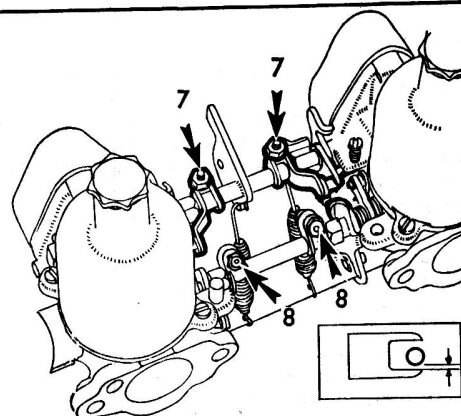

Fig.3.16. Throttle control linkage setting HS6 carburettor
23 Set the throttle interconnecting clamping levers (item 7 in Fig.3.16) so that the link pin is 0.006" (0.15 mm) away from the lower edge of the fork as shown in the inset. Tighten the clamp bolts.
24 With the jet levers at their lowest position, set the jet interconnecting lever clamp bolts (item 8 in Fig.3.16) so that both jets commence to move simultaneously.